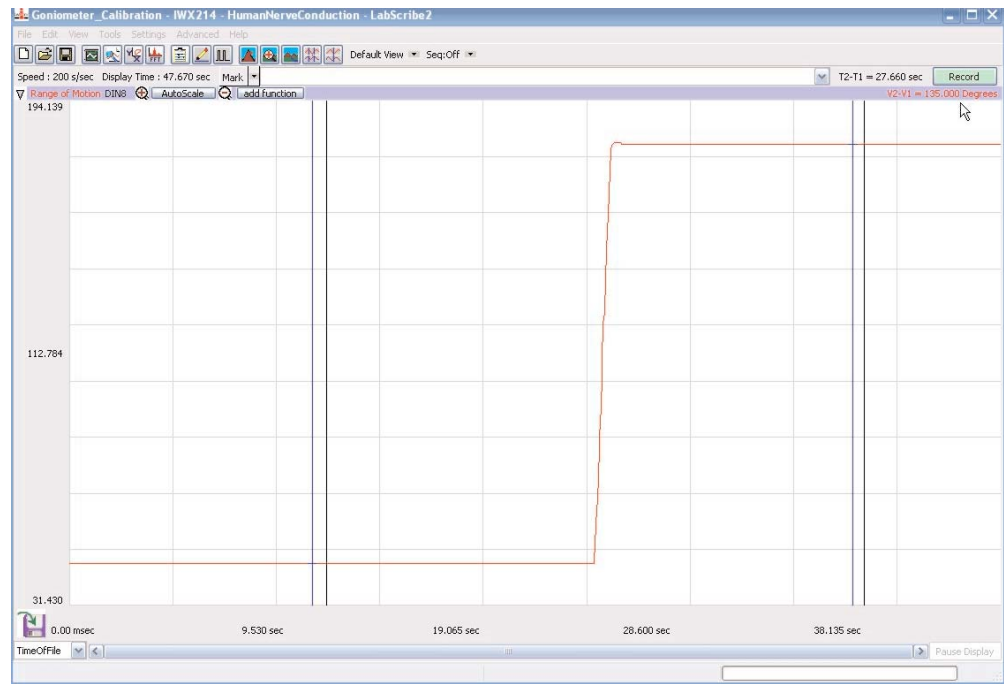

Figure 3: GN-100 Single-Axis Goniometer calibration data with cursors in the correct positions for converting the Y-axis angle of deflection (in degrees).
2. Use the **Display Time** icons to adjust the **Display Time** of the **Main window** to show the complete calibration data on the same window (Figure 3).